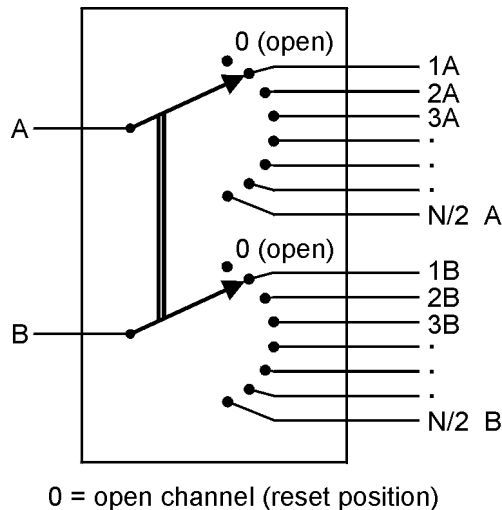

Figure 3: Dual-Common Configuration
The D configuration provides simultaneous connection of a bank of inputs to outputs (Figure 3). The input A can be connected to 1A of 1B or ...($N/2$)A. In this dual-common configuration, channel connections are stepped in pairs. The channel displayed is the current channel pair (A and B). The number of channel pairs is equal to one-half of the total number of channels (N).